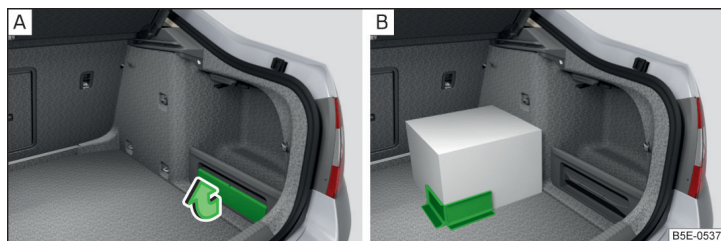

Fig. 115 Removing cargo element/example on how to mount the load by means of the cargo element
- Remove the cargo element (part of the storage compartment cover) in the direction of the arrow » Fig. 115 - [A].
- Attach the Cargo element with Velcro to the rear seats on the floor of the luggage compartment » Fig. 115 - [B] or attach to the fabric side of the double-sided floor covering.